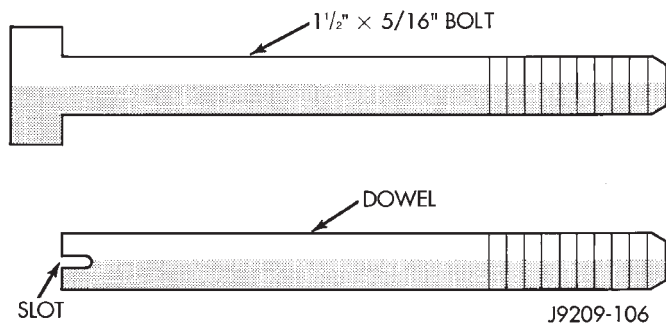

Fig. 1 Fabrication of Alignment Dowels
(1) Fabricate 4 alignment dowels from 1 1/2 x 5/16 inch bolts. Cut the head off the bolts and cut a slot into the top of the dowel. This will allow easier installation and removal with a screwdriver (Fig. 1).